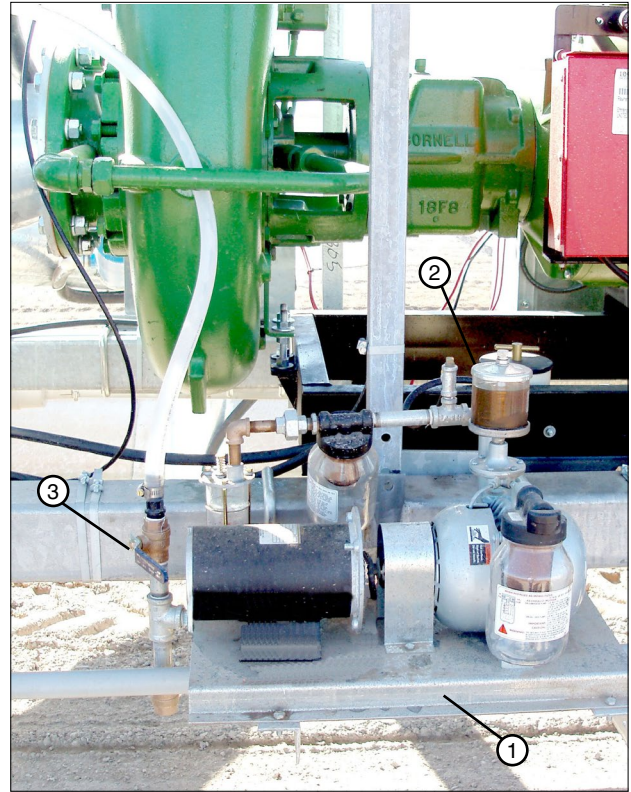

Figure 61-1 1. Electric Primer
The 50/60 Hz AC Voltage Electric primer is used for priming of pump installations with suction inlets in an Electric Cord / Motor Pump Application. See Figure 61-1.
1. Fill the automatic bearing oiler with lightweight oil, SAE 10W. See Figure 61-1.
3. Open the ball valve on the electric primer. See Figure 61-1.